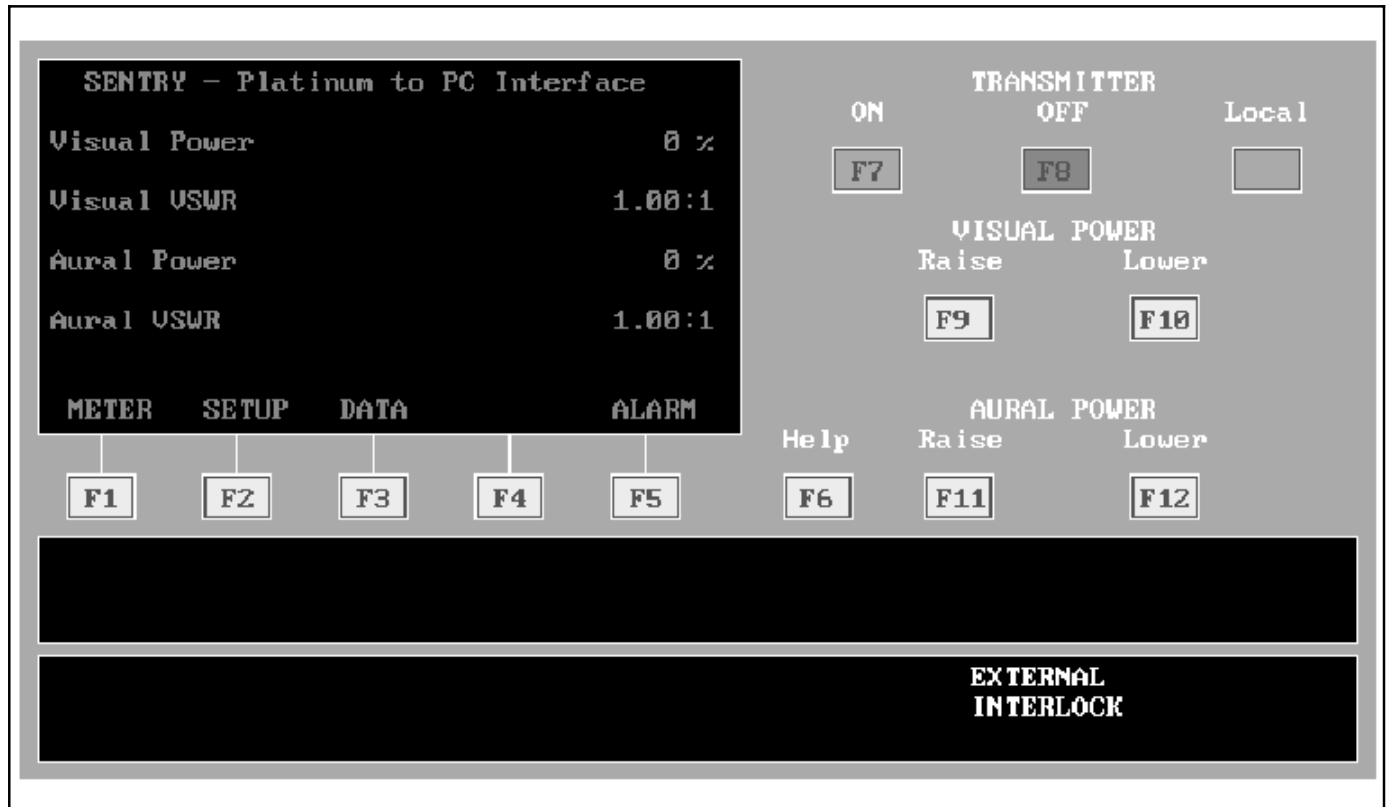

Figure 3-3
- The Main Control Panel Screen (Figure 3-3)
The user display shown in figure 3-3 is the screen which appears when SENTRY™ first selects the Main Control Panel Display Screen. Pressing EXIT from other screens returns to this display screen.